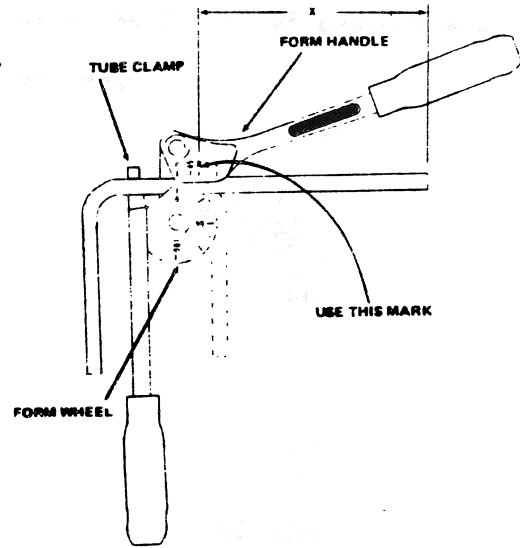

Figure 10.44.
3. If the end from which you measured is placed to the right of the tube clamp, set the mark on the tube directly over graduation "R" located on the form lever and shown in Figure 10.44. With a steady motion, pull form lever handle around until the "0" mark on form handle is directly opposite the 90 degree mark on form wheel.